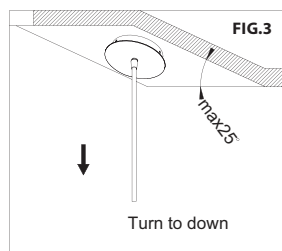

FIG. 4 Sealing
13. To prevent moisture from entering the outlet box and causing a short, use clear caulking (i.e. indoor/outdoor silicone sealant) to outline the outside of fixture back plate where it meets the wall (Fig. 4)